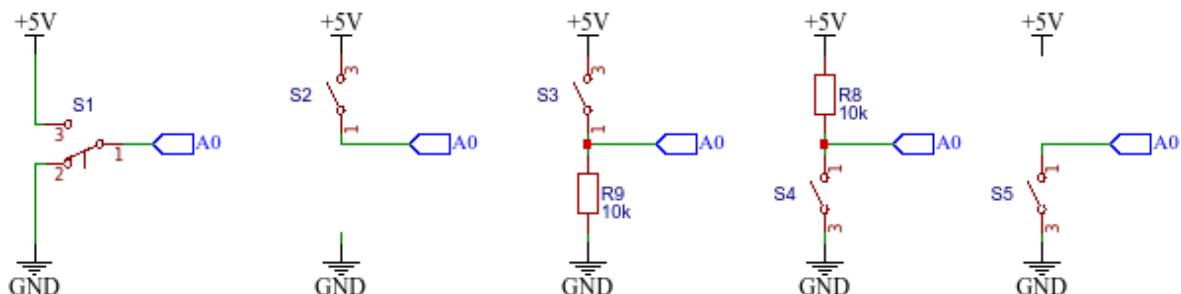

Figure 6.1: Different options of wiring the push-button-switch.
1. Connect the push-button-switch according to first diagram on fig. 6.1 and test the program prog. 6.1
2. Try to connect the bush-button-switch according to second diagan on fig. 6.1
Try to understand why this setup is not working. And test all other options in fig. 6.1
3. Solve the problem by constructing a `voltage divider` with `pull-down` resistor (third diagan on fig. 6.1).
5. Change the setup of PBSW and resistor to a `pull-up` setup (fourth diagan on fig. 6.1). What is changed?
6. Enable internal `pull-up` resistor (and remove external one - fifth diagan on fig. 6.1).